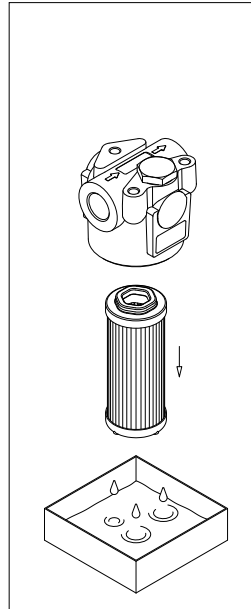

fig. 18
- (Fig. 18) Pull the filter element out. Remove all the seal from the bowl and the filter element and prepare the spare parts referring to the list in paragraph 12